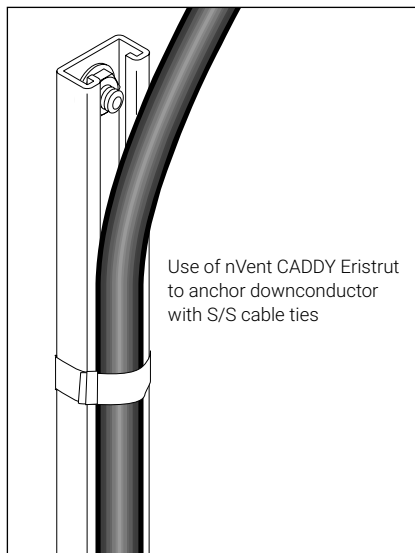

Figure 11: Downconductor anchored to strut
- Use of nVent CADDY ERISTRUT (or other similar strut system) is recommended where suitable (see Figure 11).